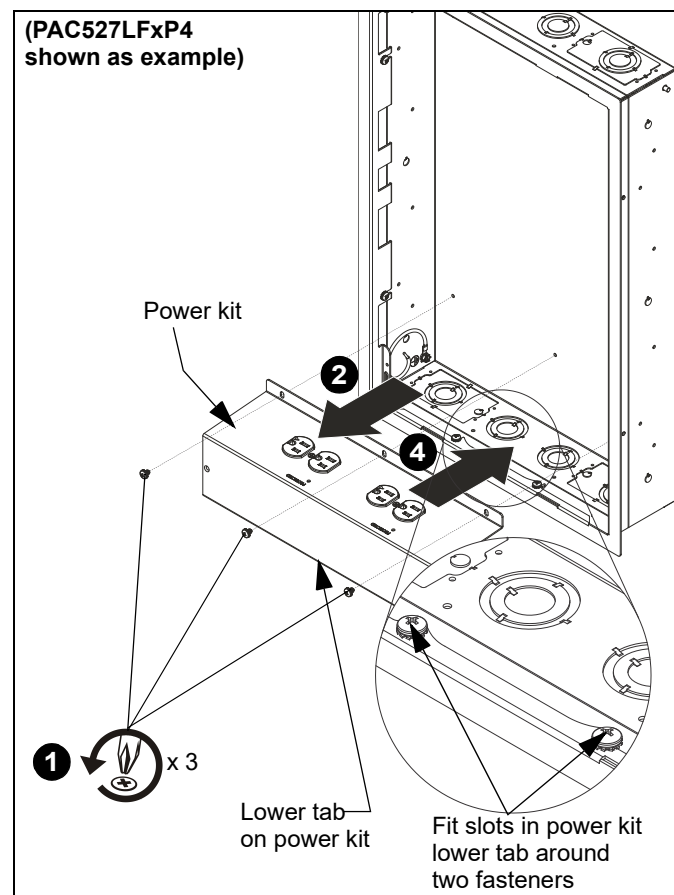
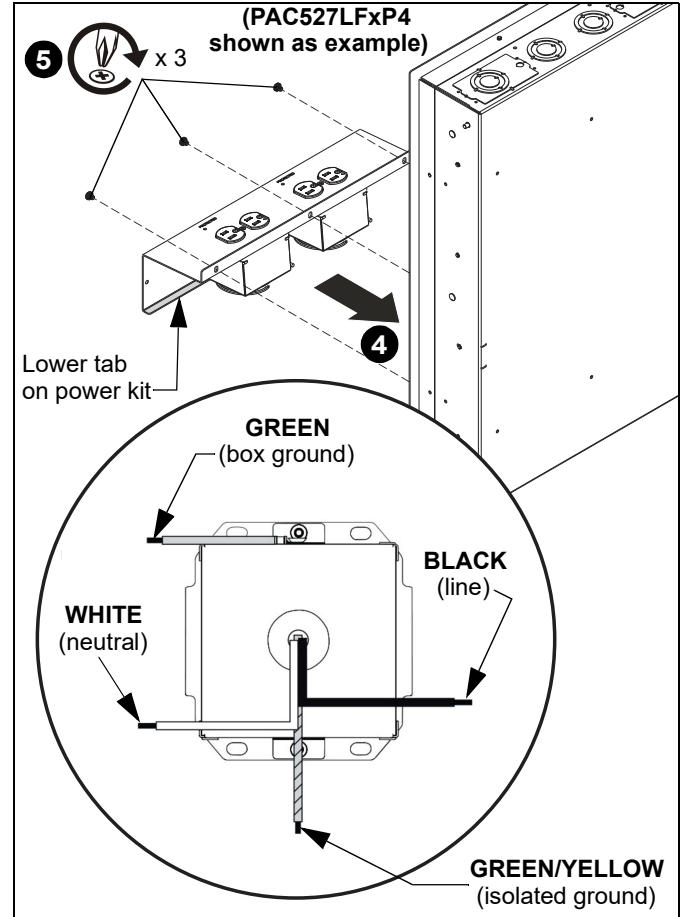

Figure 1
Figure 2
1. Remove and save three Phillips head screws holding power kit within box. (See Figure 1)
2. Remove the power kit from the in-wall box. (See Figure 1)
- Wire the outlet box(es) as required. Refer to Table 1 and Table 2 for input and output specifications. (See Figure 2)
- Replace the power kit in the PAC527L, fitting the two slots in the power kit lower tab around two fasteners in the PAC527L. (See Figure 1) and (See Figure 2)
- Tighten three Phillips screws to secure power kit in the PAC527L. (See Figure 2)